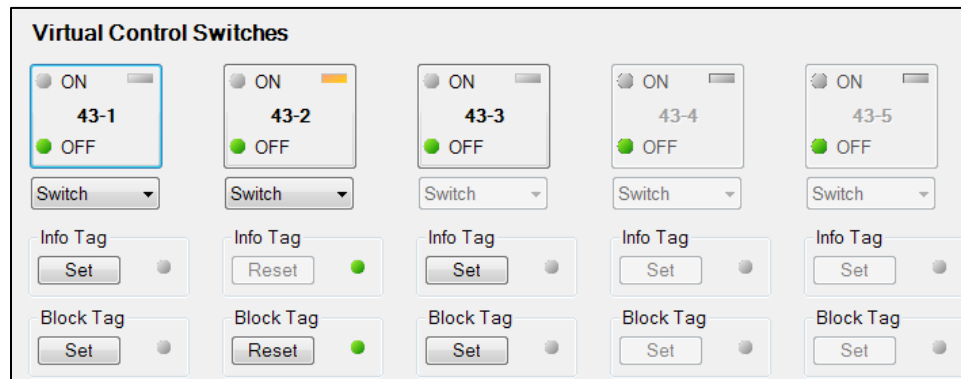

Figure 84-2. BESTCOMSPPlus Virtual Switches Control Screen
Step 4: Use the Metering Explorer of BESTCOMSPPlus to open the Control, Virtual Switches tree branch (Figure 84-2). Using select-before-operate, perform the following steps to control a virtual switch.
- Step 3: Use the Metering Explorer of BESTCOMSP*lus* to open the Control, Virtual Switches tree branch (Figure 84-2). Using select-before-operate, perform the following steps to control a virtual switch.